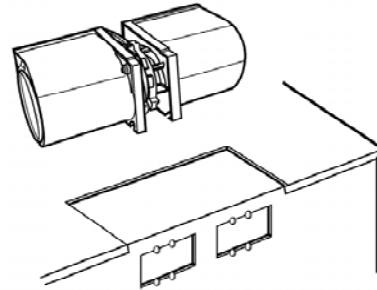

Figure 18
- (3) Carefully pull the ventilation motor ASS'Y out of the microwave oven. (See Figure 18)